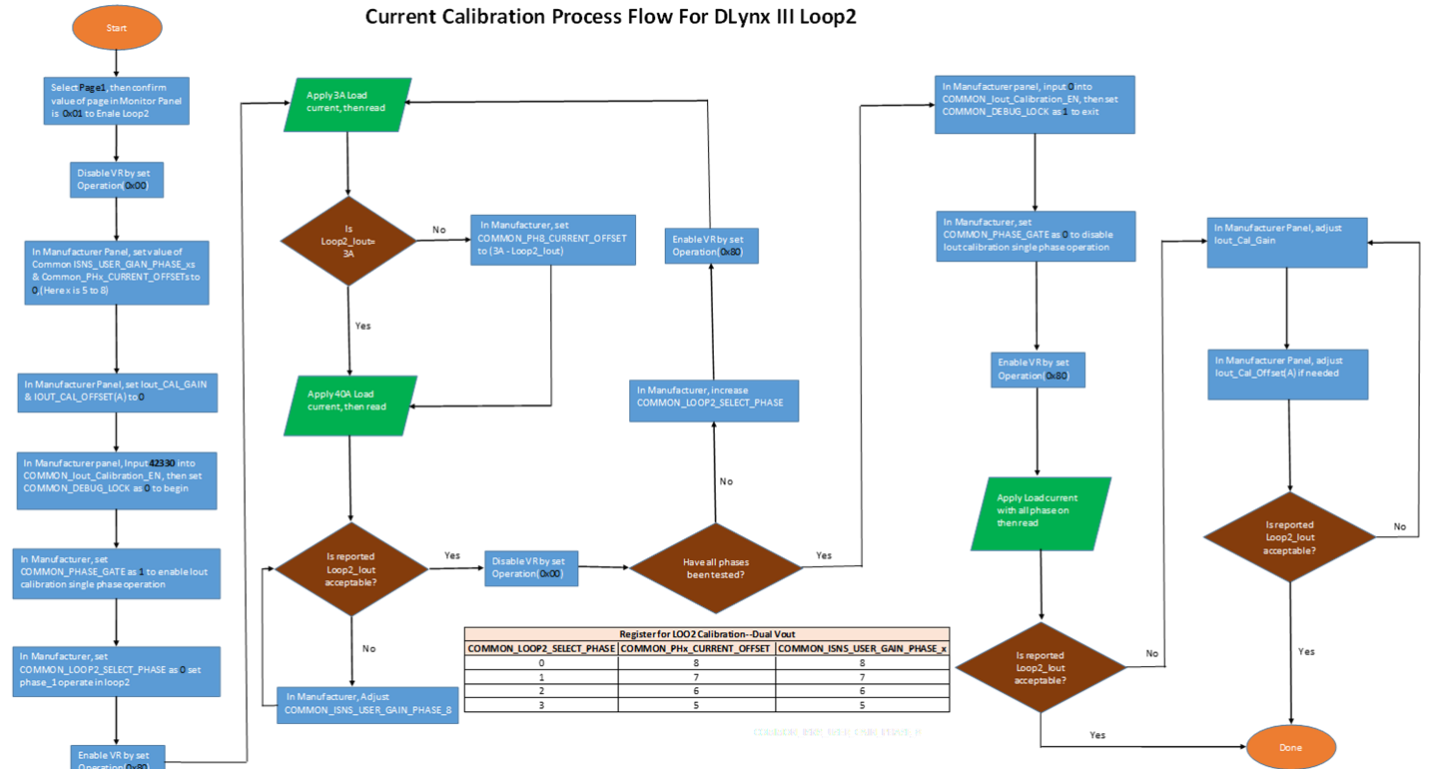

Figure 30. Output Current Calibration Process Flow—Loop 2
6. On bottom side of the customer board place a minimum of 10uF and 1uF input capacitor directly under VIN and keep additional input capacitance as close to Vin under each of the phases. **Figure 30. Example of split input-output ground** Additional input capacitance can be placed on top surface of board. All phases need to have same amount of input capacitance.